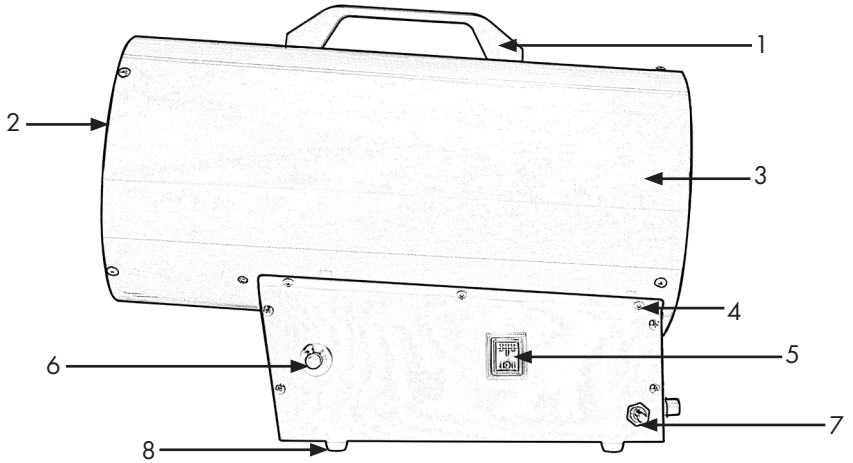

Figure 1
**Use figures 1, 2 and 3 as a visual aid when installing the gas connections.**